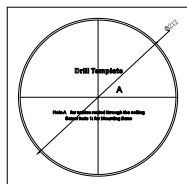

Figure 2-61 Drill Template
8. Fix the decorative rim with the bubble and the decorative rim will be attached to the in-ceiling bracket automatically, as shown in Figure 2-61.